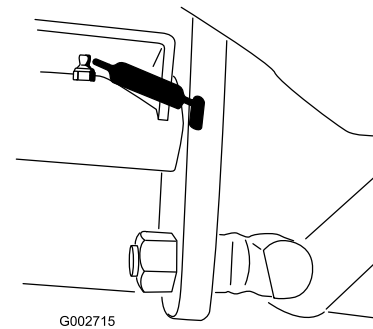

Figure 23
- Traction pedal pivot (1) (Figure 23)